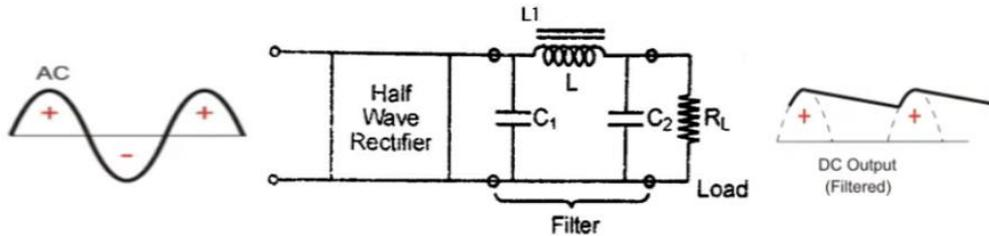

Figure 7.3: Half wave rectifier (HWR) with π filter
7. Repeat the steps 1 to 6 for figure 7.3